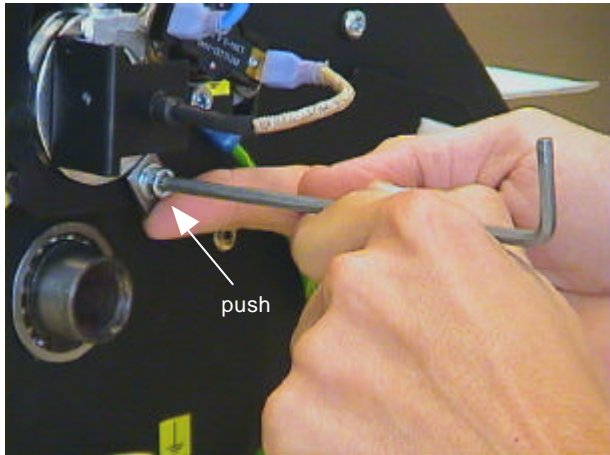

fig. 39
6. Push the adjustment strip **against** the top roller bearing housing. Whilst holding the strip in this position, fasten the M5 bolt(s) firmly using the Allen key 4mm. See figure 39.